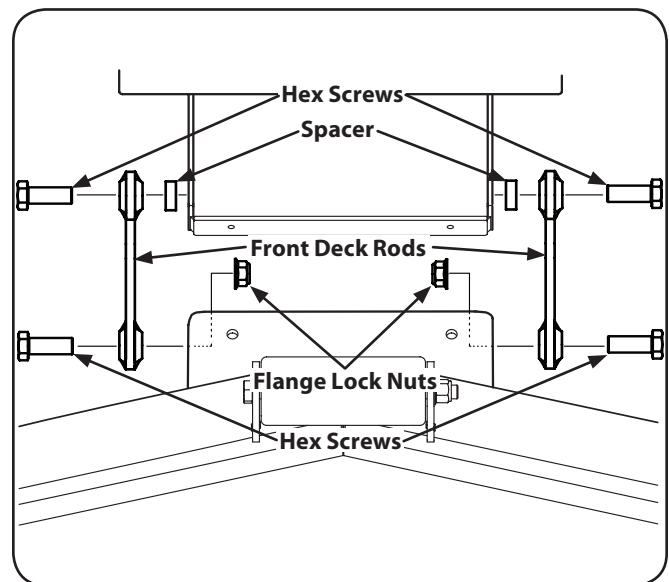

Figure 7-4
6. Remove the hex screw, spacer and flange lock nut securing the front deck control rods to the deck. See Figure 7-4.